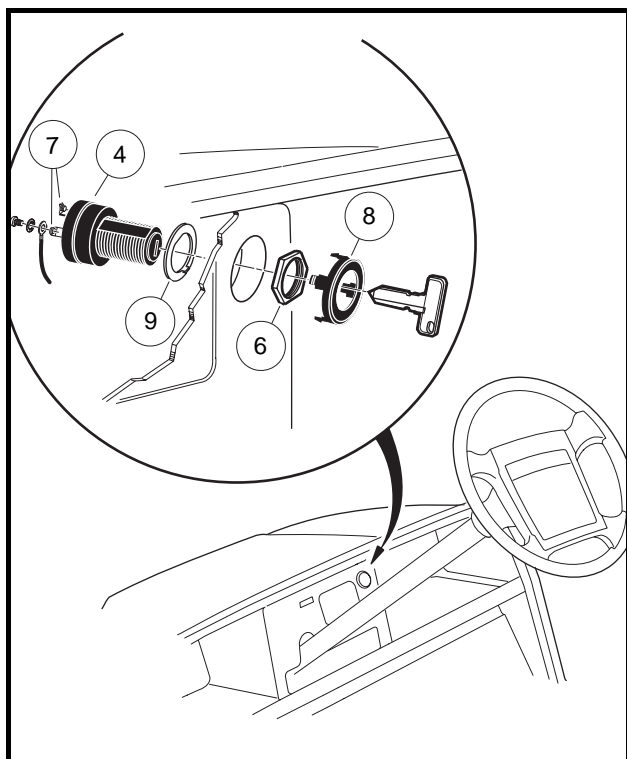

Figure 13-2 Key Switch
NOTE: Bending the top right corner of the center dash inward during removal will prevent the terminals (7) on the back of the key switch from touching the metal frame around the dash (**Figure 13-2, Page 13-2**).
5. From the back of the dash panel, push down on the retaining tabs surrounding the key switch (4) and remove the key switch cap (8). Hold the key switch and remove the switch retaining nut (6) from the outside of the dash panel (**Figure 13-2, Page 13-2**).
1. Position the key switch and flat washer (9) in the center dash, then install and tighten the switch retaining nut (6) to 40 in-lb (4.5 N·m). Install key switch cap (8) in center dash (**Figure 13-2, Page 13-2**).
3. Install center dash by reversing removal procedure. Make sure key switch terminals (7) do not touch frame and that the center dash panel is properly seated and snapped into place (**Figure 13-2, Page 13-2**).